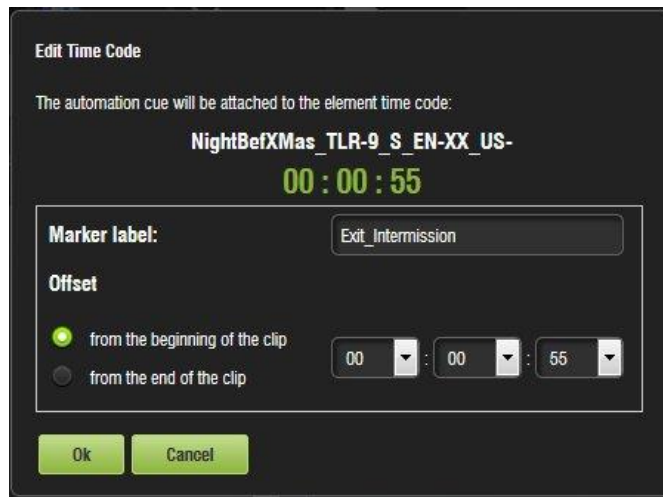

Figure 264: Exit Intermission Marker
- In the Edit Time Code window that appears, label the marker “Exit_Intermission”. Indicate at what time code you would like the CPL to play and click Ok (Figure 264).